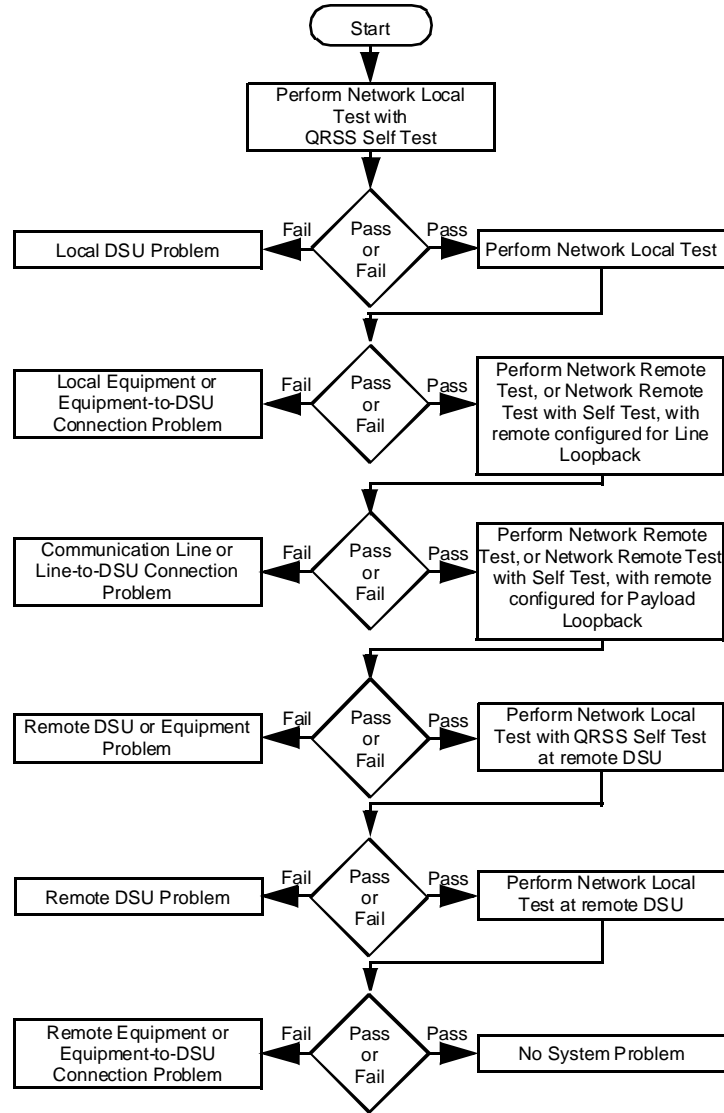

Figure 4-1 Fault Isolation Procedure
Tests can be used at the time of installation or whenever operation of the DSU must be checked. You can also use these tests as an aid in isolating problems in the data communications system (refer to *Figure 4-1, Fault-Isolation Procedure*).
2. Select [2] DIAGNOSTICS from the terminal interface Main Menu. The DSU responds by displaying the DeskTop T1 Diagnostics Selection screen, as shown in *Figure 4-1*.